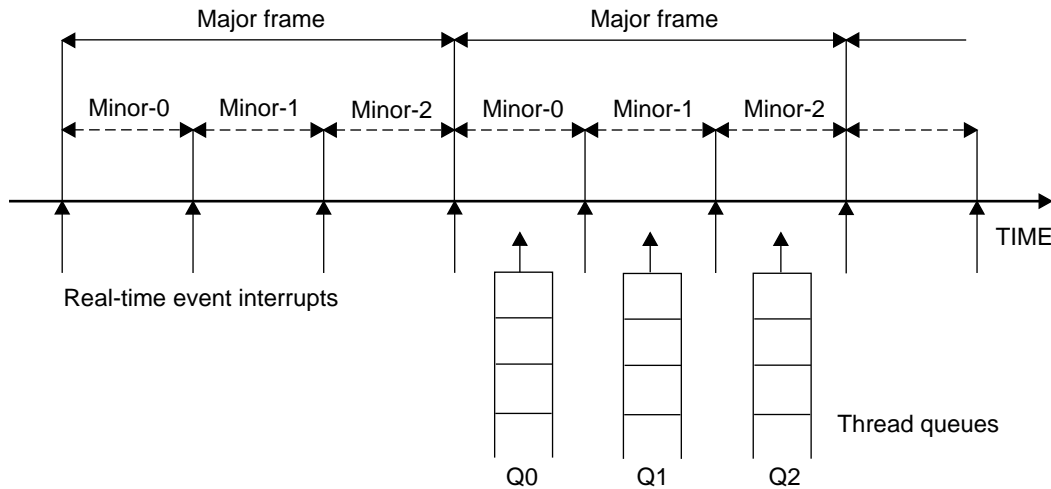

Figure 5-1 Major and Minor Frames
The interrupts from the time base define *minor frames*. Together, a fixed number of minor frames make up a *major frame*. The length of a major frame defines the application's true frame rate. The minor frames allow you to divide a major frame into subframes. Figure 5-1 shows major and minor frames.
As pictured in Figure 5-1, the frame scheduler maintains a queue of threads for each minor frame. You must queue each activity thread of the program to a specific minor frame. You determine the order of cyclic execution within a minor frame by the order in which you queue threads. You can do the following:
- Queue the same thread to run in more than one minor frame. For example, suppose that thread `double` is to run twice as often as thread `solo`. You would queue `double` to `Q0` and `Q2` in Figure 5-1, and queue `solo` to `Q1`.